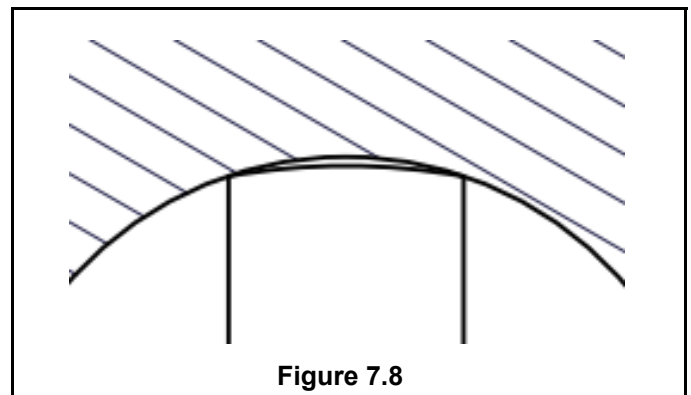

Figure 7.8
3. If the workpiece's clamping diameter is smaller than the top jaws' clamping diameter, two line contact occurs during clamping as shown in Figure 7.8. This condition is beneficial for high clamping force applications, but results in a loss of chucking accuracy.